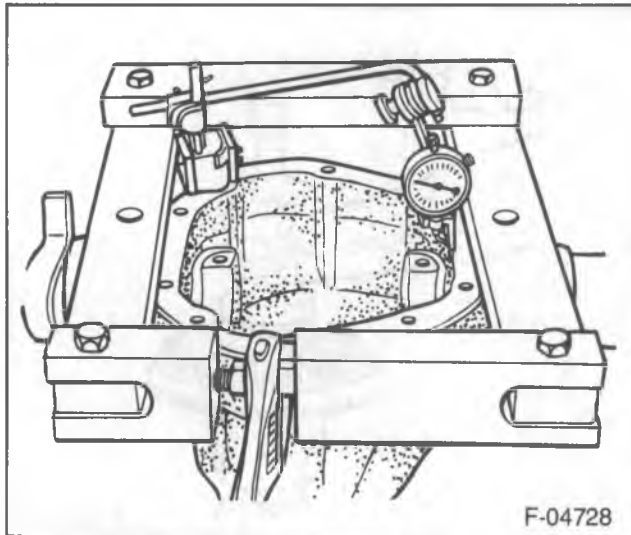

Figure 39—Mounting the Carrier Spreader
12. Assemble J 24385-01 to the axle housing as shown in figure 39.
13. Assemble the dial indicator as shown in figure 39. Preset the gage at least 5 mm (0.020-inch), and then rotate the indicator housing to zero the dial.